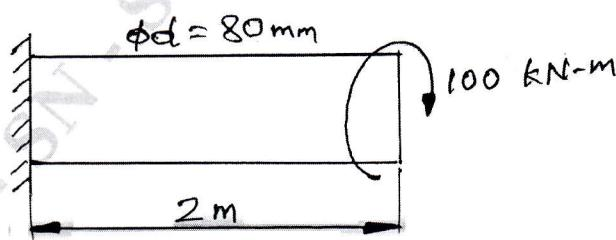

Fig.Q.6(b)
b. Determine the angle of twist at the free end of a shaft subjected to a torque of 100 kN-m as shown in the Fig.Q.6(b). Given  $G = 80 \text{ GPa}$ . Also determine the angle of twist at the center. (14 Marks)